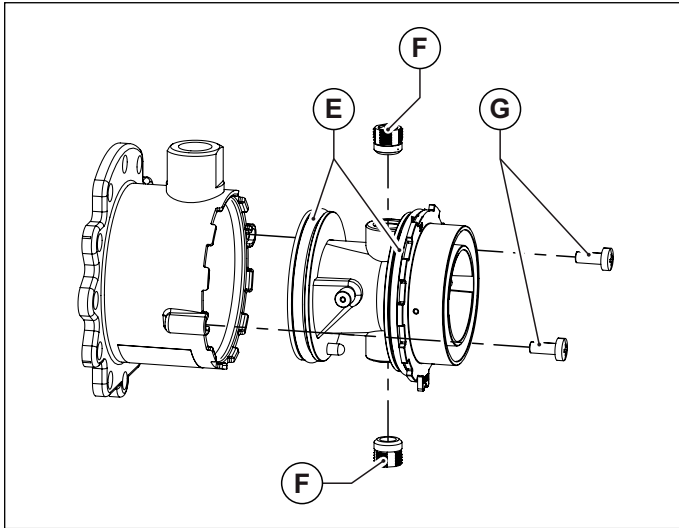
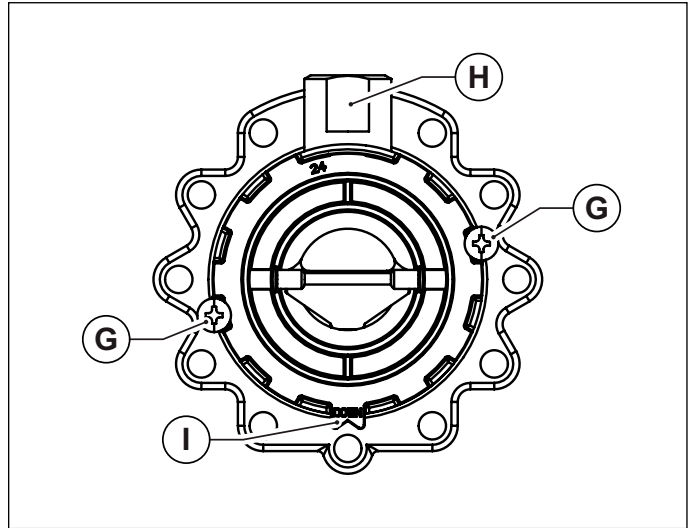

Fig. 32 Mixer plastic body
Fig. 33 Assembling direction
- Loosen the two retaining screws, and slide out mixer plastic body (see Fig. 32 Mixer plastic body).
- Using a 6 mm Allen wrench, loosen the two mixer nozzles (see Fig. 32 Mixer plastic body).
- To refit the plastic body (Venturi), insert it inside mixer and secure it in place with the retaining screws. Take care not to damage the O-rings assembled on plastic body ends (see Fig. 32 Mixer plastic body) and to respect the assembling direction (see Fig. 33 Assembling direction).
- Refit the reassembled mixer onto the fan with the socket head screws, making sure to insert the O-ring between mixer and fan (see Fig. 32 Mixer plastic body).